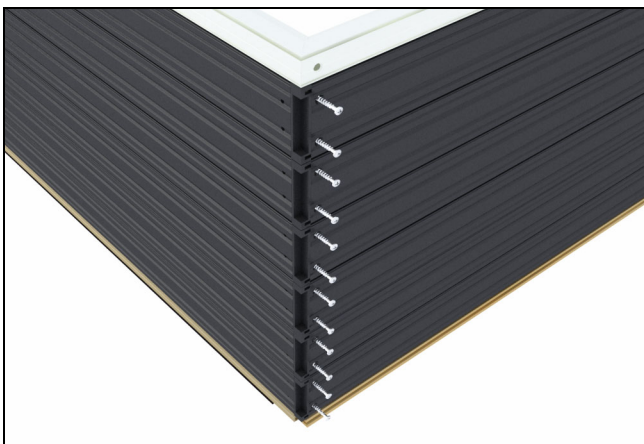

Figure 38
3. Fasten head jamb to side jamb using #8 x 1 1/4" pan head screws. See figure 38. *Note: If unit is prepped for motorization, use two #8 x 3/8" pan head screws on interior track.*